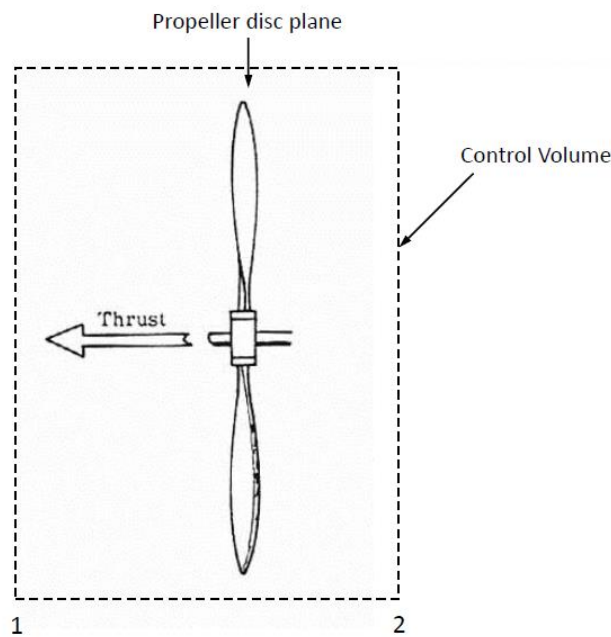

Fig. 2. Side view of a propeller.
**Q4.** Consider a propeller surrounded by a Control Volume, as shown in Fig. 2. If we wish to calculate the thrust generated by the propeller by applying the Linear Momentum theorem, then we would need to know the following data: